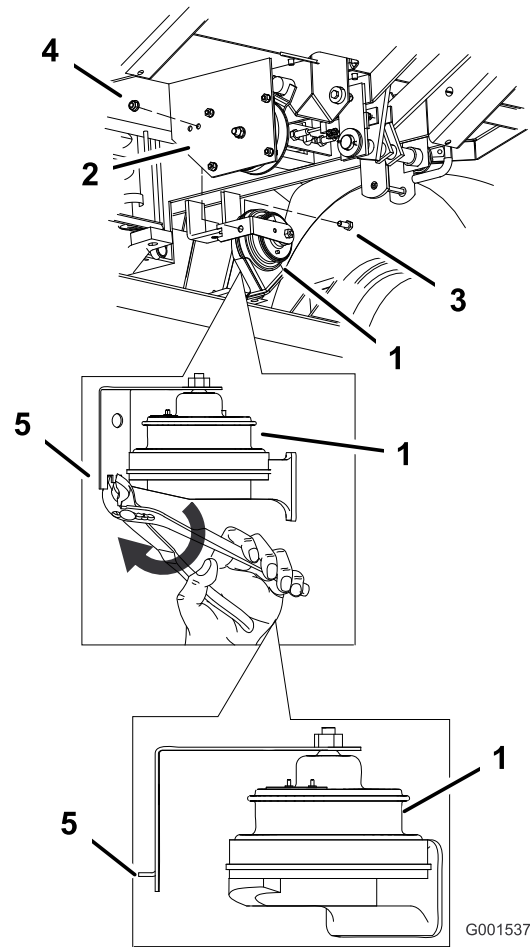

Figure 4
- 1. Bend the middle tab at the end of the bracket to a 90 degree angle (Figure 4).
- 2. Install the bent tab into the back hole that was previously drilled. Secure the horn to the clutch plate using a bolt (5/16 x 3/4 inch) and a flange nut (5/16 inch) (Figure 4).